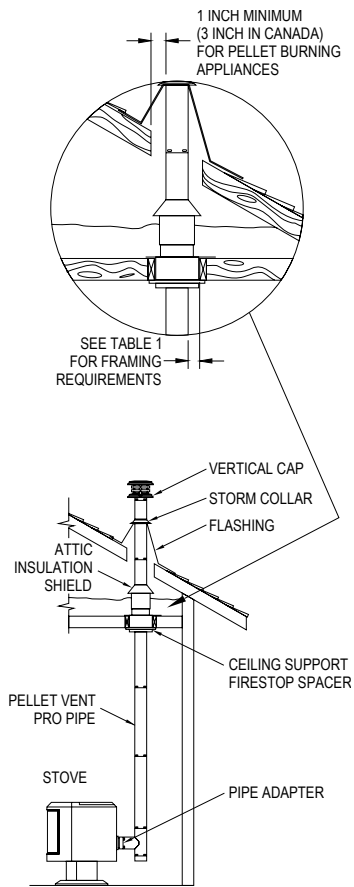

Figure 1
2. If the vent exit is on top of the stove (**Figure 1**):
G. When the PelletVent Pro enters the Attic, install an Attic Insulation Shield around the vent (Figures 1 & 3). This will prevent insulation and debris from collecting near the vent pipe. Use (4) wood screws to secure the base of the Attic Insulation Shield to the framed opening. Adjust the height of the Attic Insulation Shield by sliding the top cylindrical shield over the one from the base. Insure that the top of the Shield is above the level